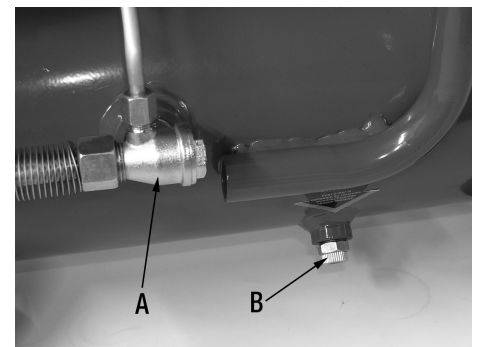

FIGURE 7
CHECK VALVE (A) FIG.7. When the air compressor is operating, the check valve is “open”, allowing compressed air to enter the air tanks. When the air compressor reaches “Cut-Out” pressure, the check valve “closes”, allowing air pressure to remain inside the air tanks.
DRAIN VALVE (B) FIG. 7. The drain valve is located at the base of the air tank and is used to drain condensation at the end of each use.